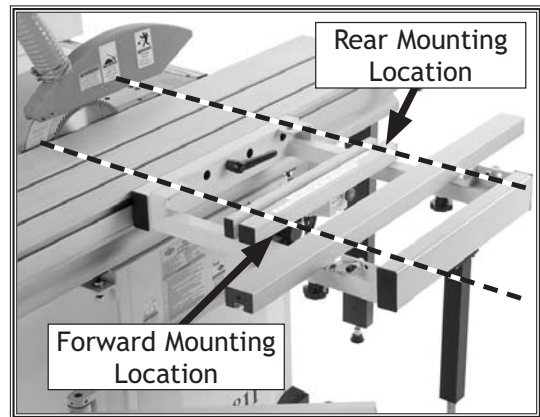

Figure 75. Crosscut fence mounting points.
1. Install the crosscut fence in the forward mounting location shown in **Figure 75** and lock it in place.
1. Install the crosscut fence in the rear mounting points shown in **Figure 75** and lock it in place.